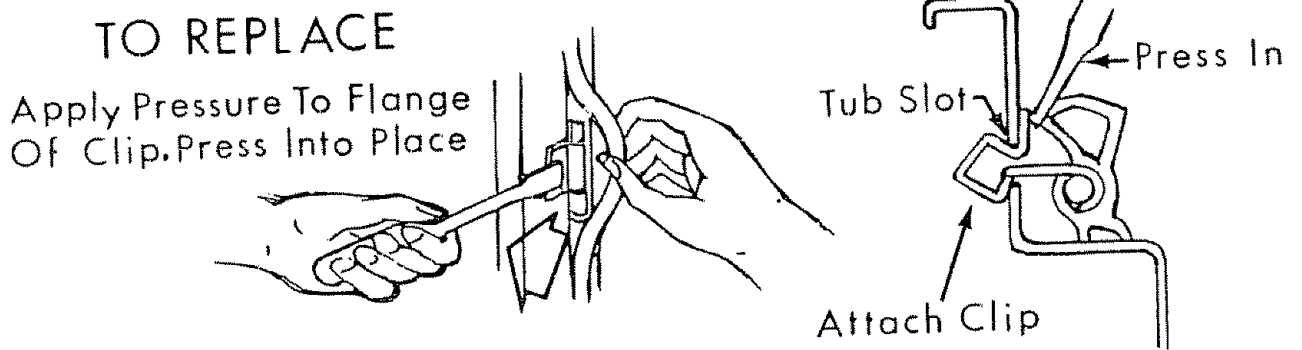

FIGURE 82
2. Attach clips can be positioned in replacement gasket and pressed back into tub slot. See Figure 82